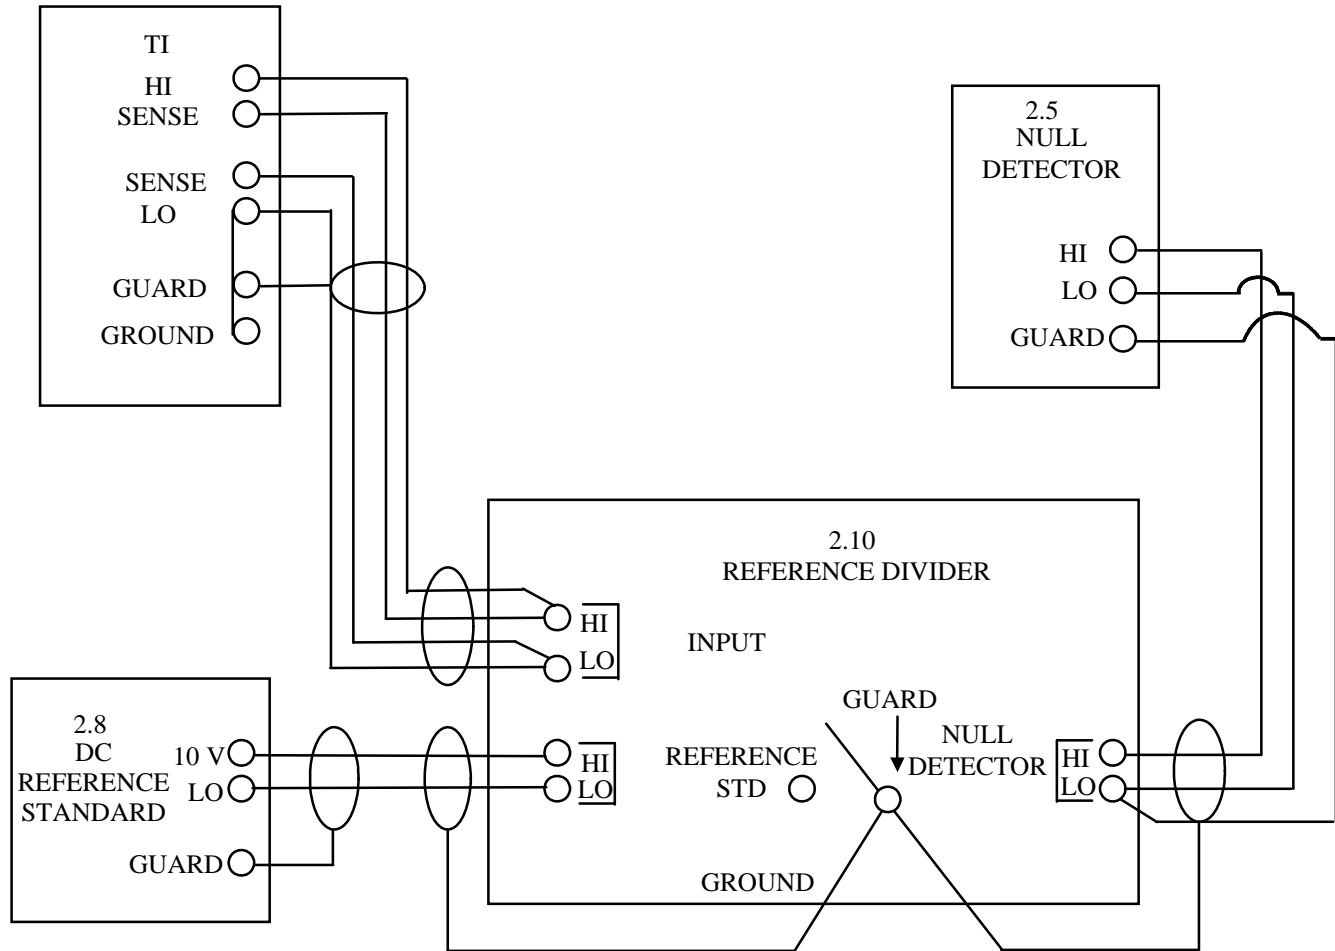

Figure A-4. Output Voltage Test Configuration
A.4.2 Connect the equipment as shown in Figure A-4.